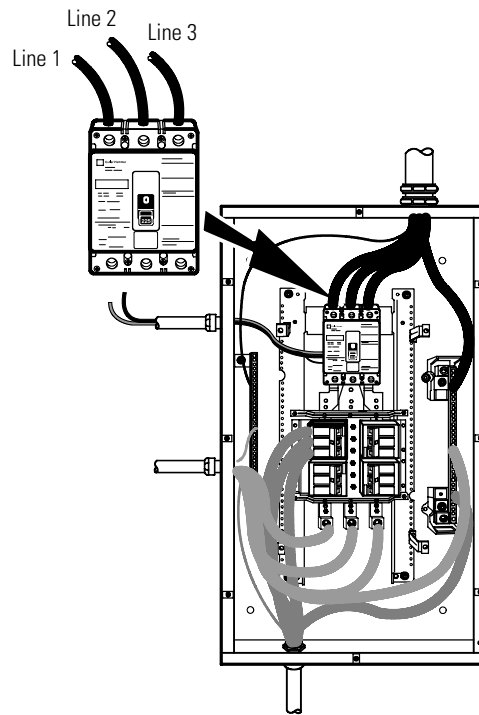

Figure 25. Bypass AC Input Wiring
18. Wire the AC input to the bypass breaker (see Figure 25).